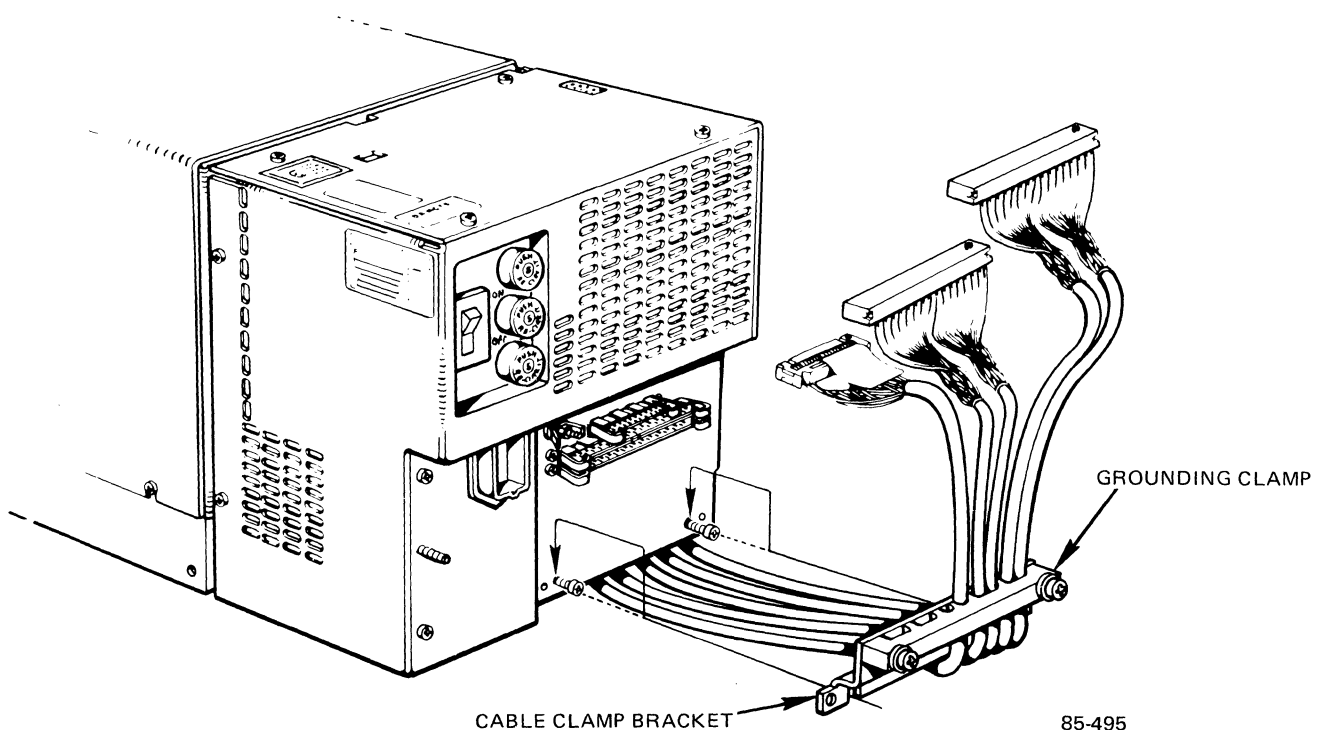

Figure 2-17. Cable Clamp Bracket Installation
9. Loosen the two screws and washers installed in the rear of the disk drive, and insert the cutouts into the cable clamp bracket between the screws and the drive as shown in Figure 2-17. Tighten the screws.